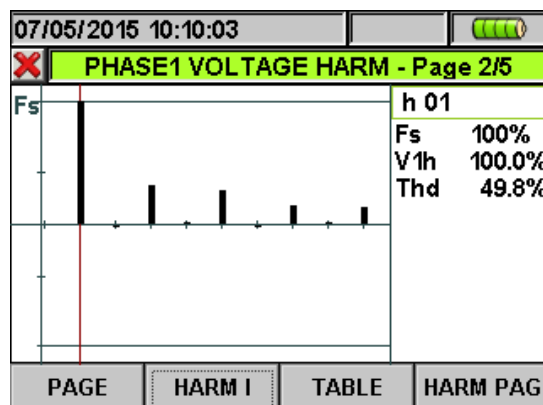
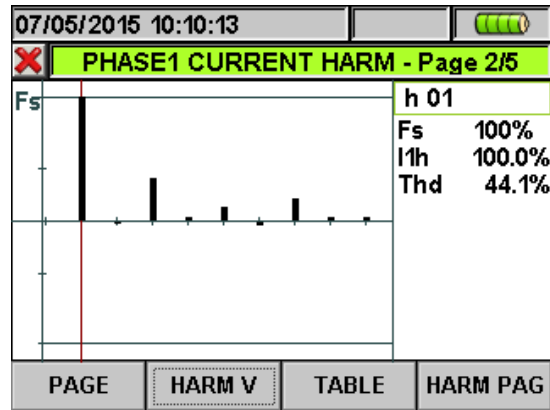

Fig. 37: Harmonic analysis voltage V1 in percentage values for 4-wire system
Fig. 38: Harmonic analysis of current I1 in percentage/absolute values for 4-wire system
- Harmonics values of single V1, V2, V3 voltages and neutral voltage Vn and single currents I1, I2, I3 and neutral current In (for three phase 4-wire system – **not available for PQA400**) with THD% values both with histogram graphics and with numerical values in percentage or absolute value depending on the desired settings. These values are shown in four pages selectable by pressing cyclically the **F1** key (or touch the "PAGE" at display). On Fig. 37 and Fig. 38 are display as an example, the situation relative to L1 phase for voltage and current on 4-wire systems is shown in the next pictures: